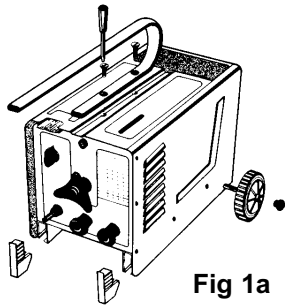

Fig 1a
3.1. Where necessary assembly wheels, handle, feet etc (fig 1a,b,c) and fit the lens inside face mask (fig 2).